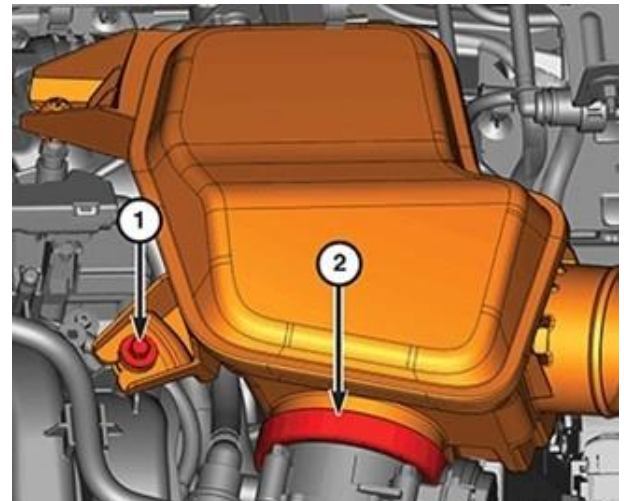

Figure 59 – Resonator
86. Remove the bolt (1) from the resonator then pull the resonator straight up off of the locating pin on the right cylinder head cover. Disengage and remove the resonator from the throttle body inlet (2) (Figure 59).
94. Install the resonator to the throttle body inlet (2) push the resonator straight down onto the locating pin on the right cylinder head cover then install the bolt (1) and tighten securely (Figure 59).